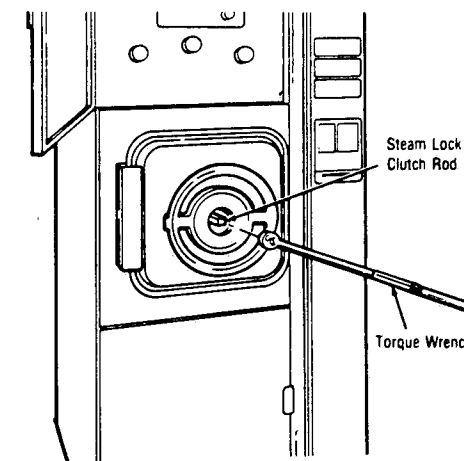

Figure 5-4. LOCKING DOOR TO CORRECT TORQUE.
2. Remove center disc. Then, using a torque wrench on the steam lock clutch rod, close and lock door to approximately 20 ft lbs torque for 16x16 door and 24 ft lbs torque for a 20x20 door. The DOOR UNLOCKED light on primary panel should go out. See Figure 5-4.